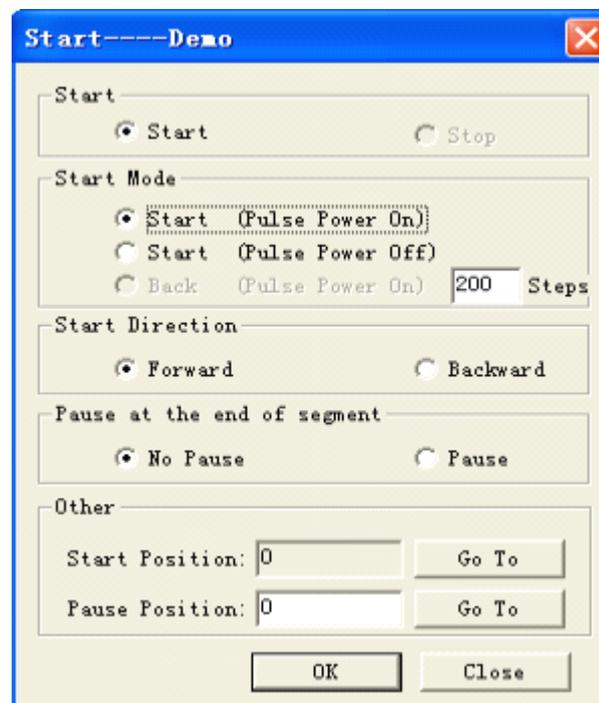

Figure 5.12: Start Processing
6) Startup picture (Figure 5.12): Control software can display the franchiser picture as startup picture when running the software, Display types include: not display, auto close after display the set time, continue display until manual close it.
After finishing the above selection, click the “OK” button to start processing, the originally “ Start Process ” button will display “Pause Process”, user can click the button when need pause the processing, the above dialog (Figure 5.12) will be displayed for user to deal with corresponding things.